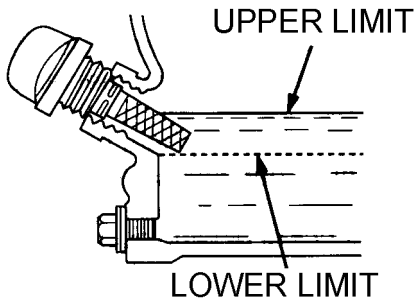

Figure 15. Engine Oil Dipstick (Oil Level)
4. If the oil level is low (Figure 15), fill to the edge of the oil filler hole with the recommended oil type as listed in Table 4. Reference Table 3 for maximum engine oil capacity.